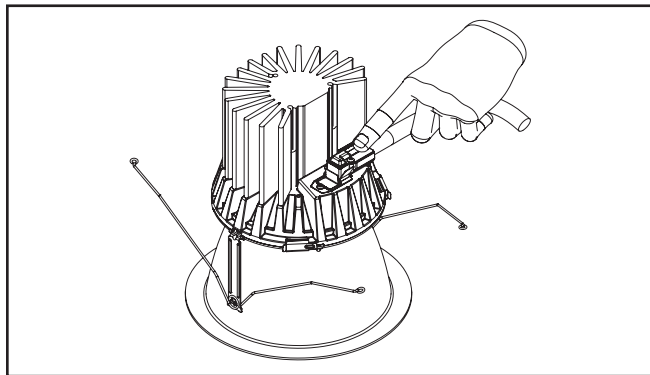

Figure 7
8. Properly align the connector as shown in (Figure 7.). Plug in the luminaire quick disconnect on the module.